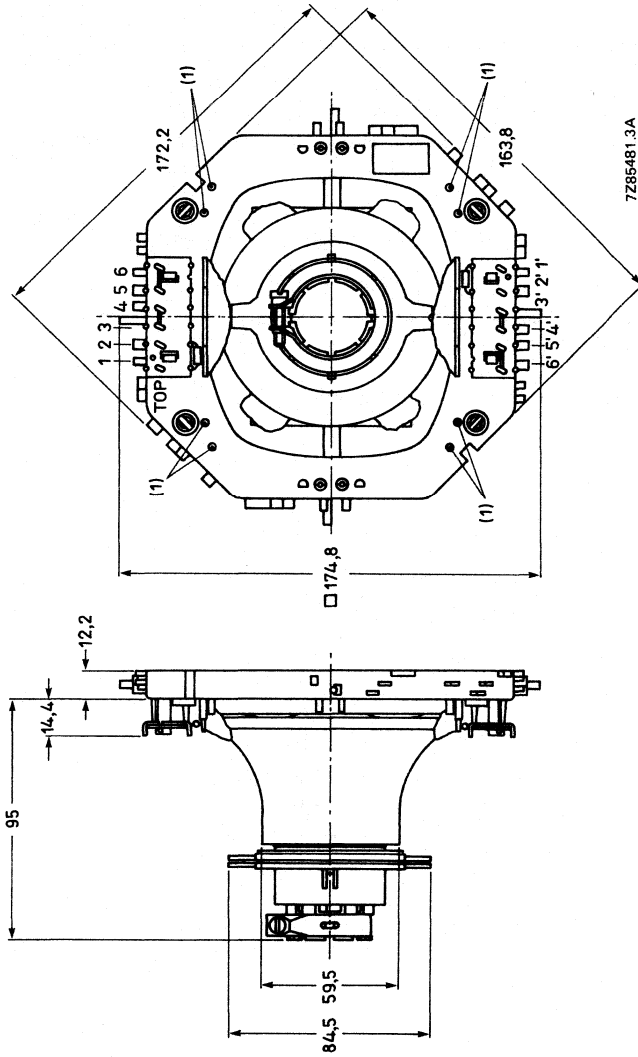
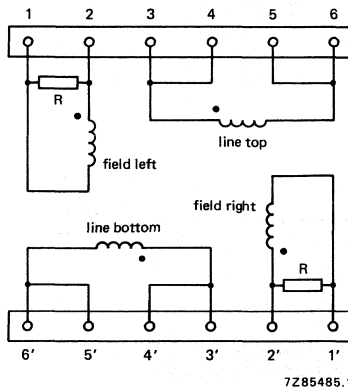

Fig. 1 Deflection unit AT1039/16.
Fig. 2 Diagram of line and field coils; R = 270 Ω. The beginning of the windings is indicated with •.
If a further improvement of raster geometry is required use can be made of correction magnets*, which must be fitted to mounting posts (1). The unit has solder pins for connection. The pin numbering in Fig. 1 corresponds to that in Fig. 2.